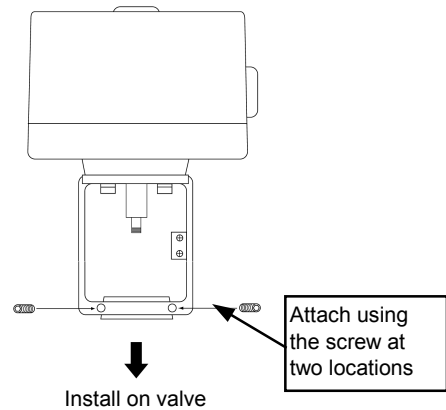

Figure 5
- 3 Connect the yoke combined with the actuator to the valve and anchor it using the hexagonal wrench (M5) in the hexagonal hole fixing screw (M8 X 25.2) (Figure 5).